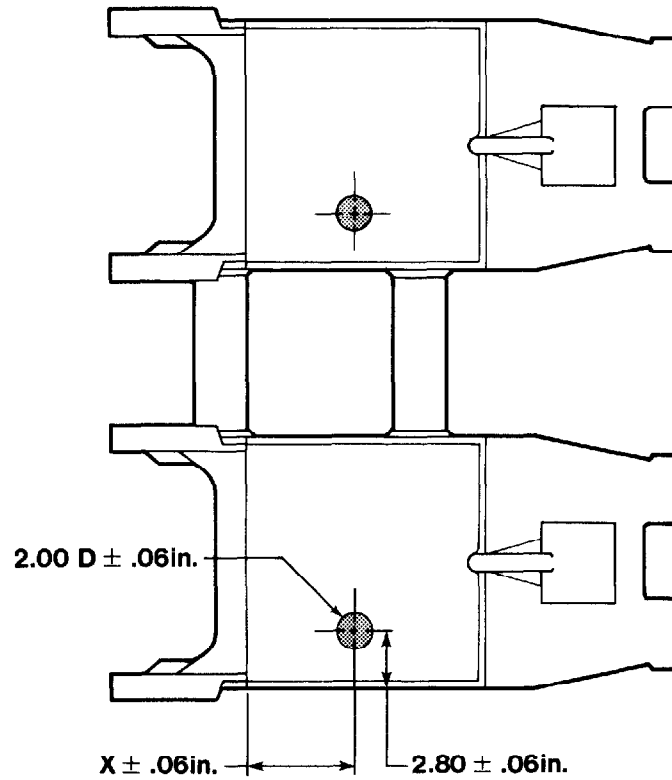

FIGURE 3
2. Layout two 5.25 in. radiuses on the long arm using the full size template shown in figure 1 or the dimensions shown in figure 3 on the attached sheet.